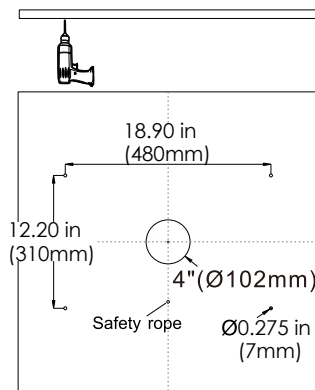

Figure 3
3. Drill installation holes into the mounting surface per Figure 3 template. Center hole to be 4 inches. Mounting screw holes to be min .275 inches.